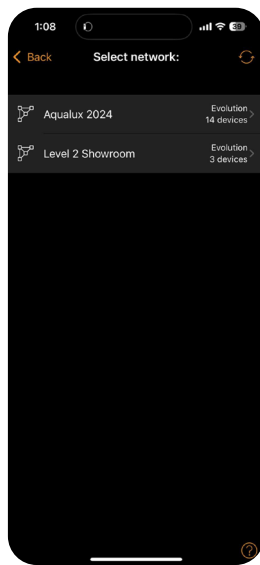

FIG. 10
5. In this installation example, we've added the dimmer to an existing network named "Aqualux 2024" (Fig. 10).